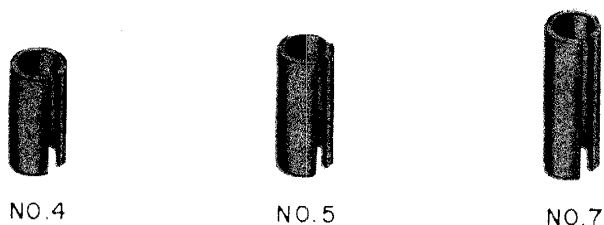

Fig. 14 — Terminal Punching Insulators
6.07 Terminal punching insulators are opened fiber insulators for use on terminal punchings to prevent accidental contacts. These insulators are designated No. 4, 5, and 7 and are shown in Fig. 14. Terminal punching insulators have a red enamel finish.
- No. 4 insulators, Fig. 14, are 1/2 inch in length and are used on terminal strips.
- No. 5 insulators, Fig. 14, are 5/8 inch in length and are also used on terminal strips.
- No. 7 insulators, Fig. 14, are for use on cable conductor terminating lugs of the C- and E-type protector mountings.